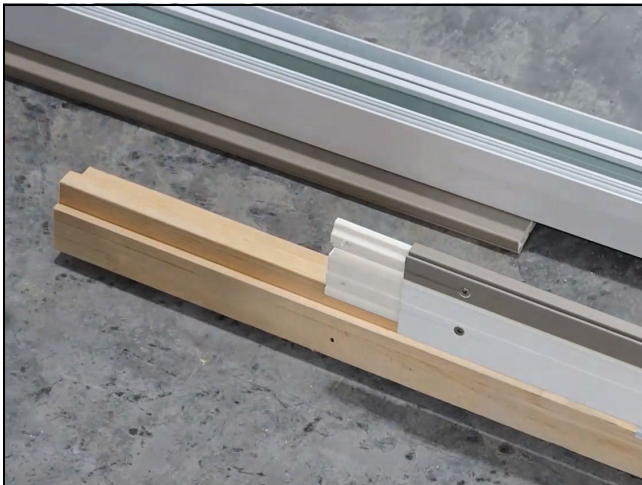

Figure 74
1. Insert and fasten the head jamb keys in the section that does not have the aluminum track exposed. See Figure 74.